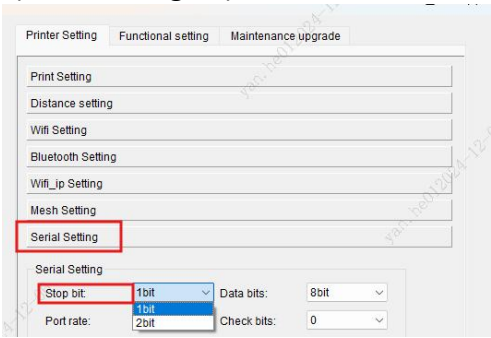

Fig.45
① Stop bit: The length of the stop bit is divided into 1 bit and 2 bits; please select according to your needs (shown in Fig.45).